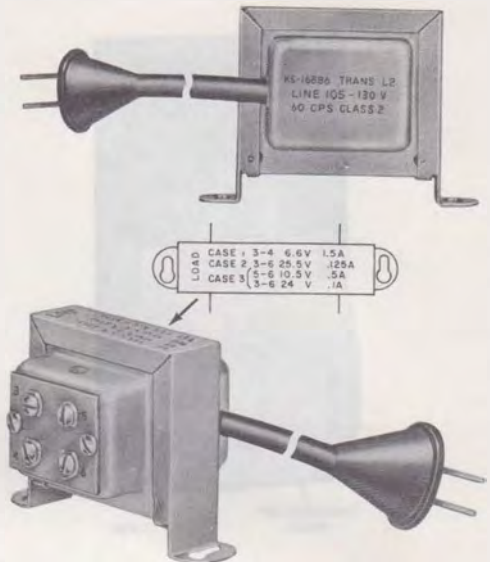

Fig. 9—KS-16886L2 Transformer
8.01 The KS-16886L2 transformer (Fig. 9) is primarily intended as the centralized power supply for multiphone dial light installations and home interphone systems requiring approximately 6 volts. It is capable of handling up to ten dial light stations. Additional taps at 10.5, 24.0, and 25.5 volts are also provided for other possible uses. This transformer is self-protecting and has no fuses.